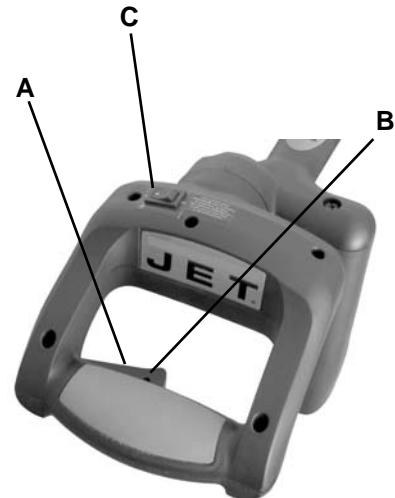

Figure 23
The laser is turned on with a switch located on the saw handle (C, Fig. 23). When left on indefinitely, a sensor will turn the laser off after 20 minutes. The switch must be reset (turned off for two seconds, then on again) to restart.
4. Squeeze the *trigger switch* (A, Fig. 23) to start saw.
2. Release trigger switch (A, Fig. 23) and wait for all moving parts to stop before moving your hands and raising the cutting arm.
Depress the trigger switch (A, Fig. 23).
Note: Make the On/Off switch child-proof by inserting a padlock through the hole (B, Fig. 23) in the trigger switch.